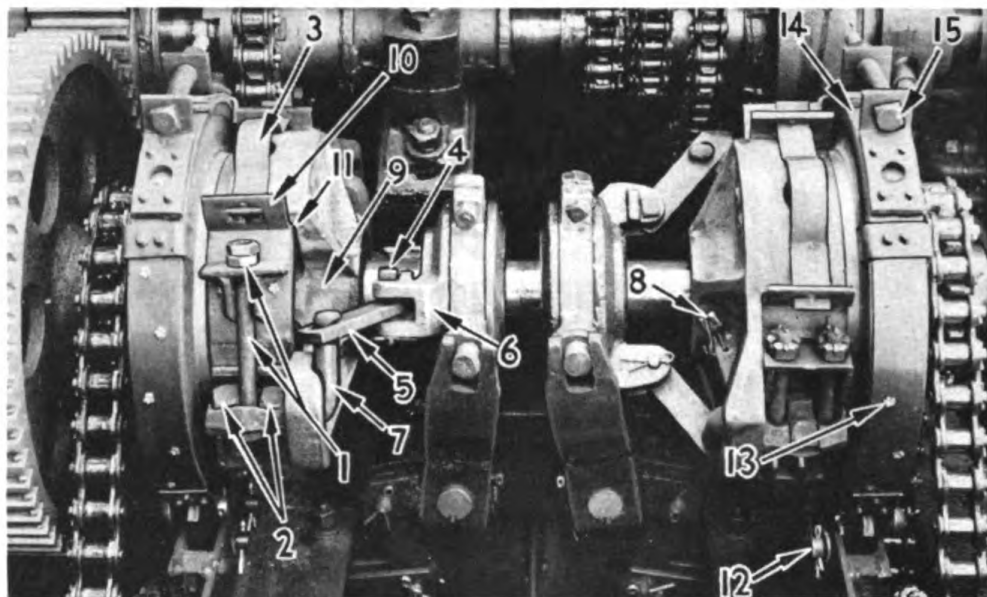

Figure 69.
To tighten clutch, loosen half nut on adjusting bolt (1) Figure 69 and turn inside nut down $\frac{1}{4}$ to $\frac{1}{2}$ turn. Then turn clutch half way around and repeat procedure on opposite take-up bolt. Be sure to take up an equal amount on both bolts.